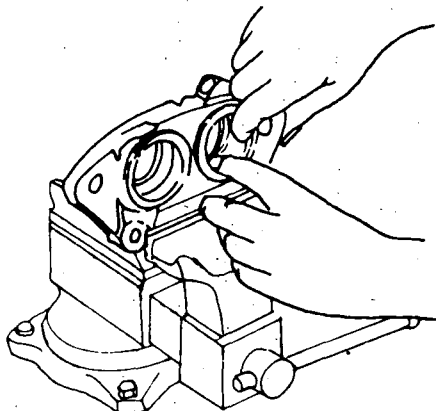

Fig. 7
- a) Install the seals into the cylinders (fig. 7).